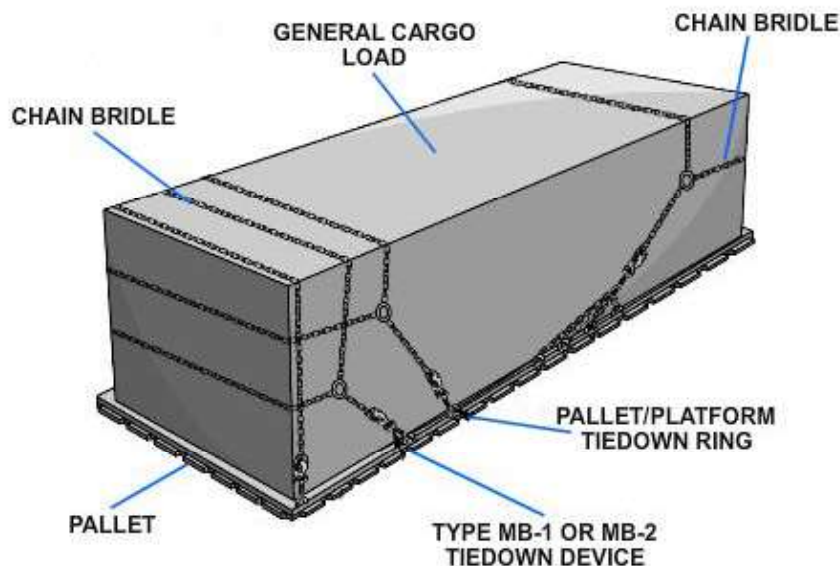

Figure 2-22 — Chain bridle.
- Use barriers and chain bridle, as shown in *Figure 2-22*, for loose heavy item such as lumber and pipe. The minimum thickness for the barrier is 3/4 inches (usually plywood).